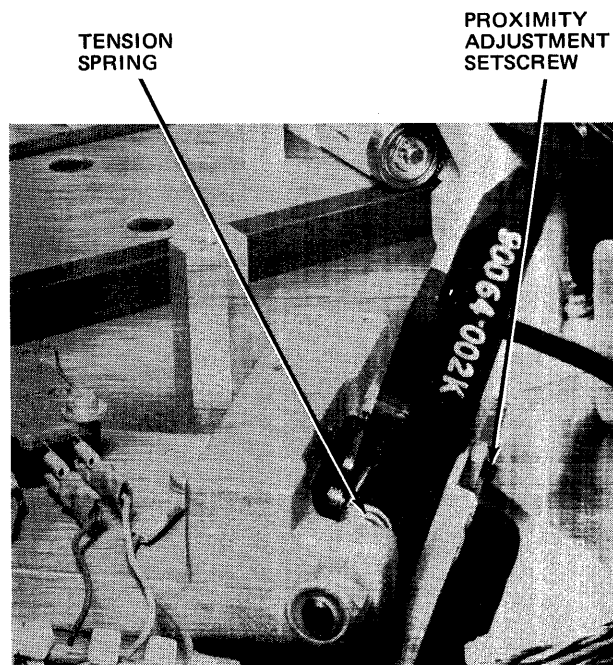

Figure 2-17. Sector/Index Transducer Adjustment
- c. Install a 0.033-inch feeler gauge between sector/index transducer and disk pack (Figure 2-17).